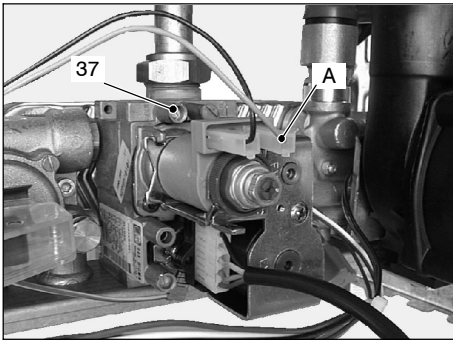

Fig. 7.4
- 2 Loosen the internal screw 37 (Fig. 7.4) on the Outlet Pressure Test Point of the Gas Valve and connect a pressure gauge using a suitable hose.
- 8 Disconnect the gas modulator coil by removing the electrical connector A (Fig. 7.4).
- 2 Open the gas valve outlet pressure test point 37 (Fig. 7.4) and connect the gauge.
- 3 Open the gas valve outlet pressure test point 37 (Fig. 7.4) and connect the gauge.